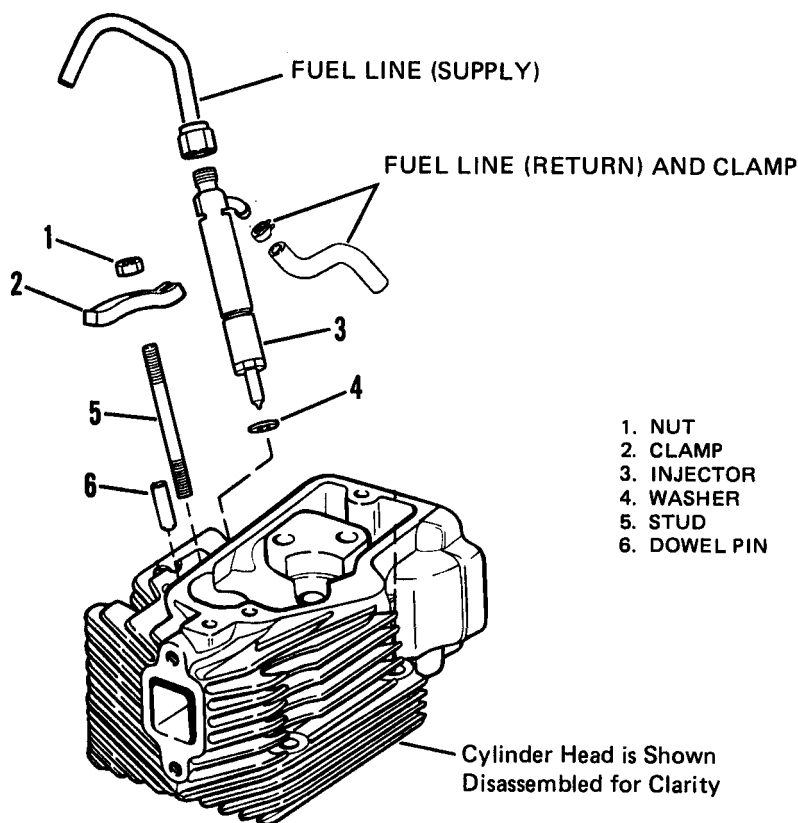

Figure 6-4. Fuel Injector Removal and Installation.
- (1) Disconnect fuel supply and return lines at the injector (see Figure 6-4). Plug openings in injector and lines to prevent the entry of dirt.
(2) Remove nut (1, Figure 6-4) securing injector clamp (2). Remove clamp (2).
- (1) If removed, apply sealing compound (Table 2-2, item 5) to stud (5, Figure 6-4) and install. If removed, install dowel pin (6).
- (2) Seat new copper washer (4) in injector bore.
- (3) Install injector (3) into bore.
- (4) Secure injector with clamp (2) and nut (1). Tighten nut (1) to a torque of 7 to 8 ft lbs (9 to 11 N.m).
- (5) Connect fuel supply and return lines to injector.